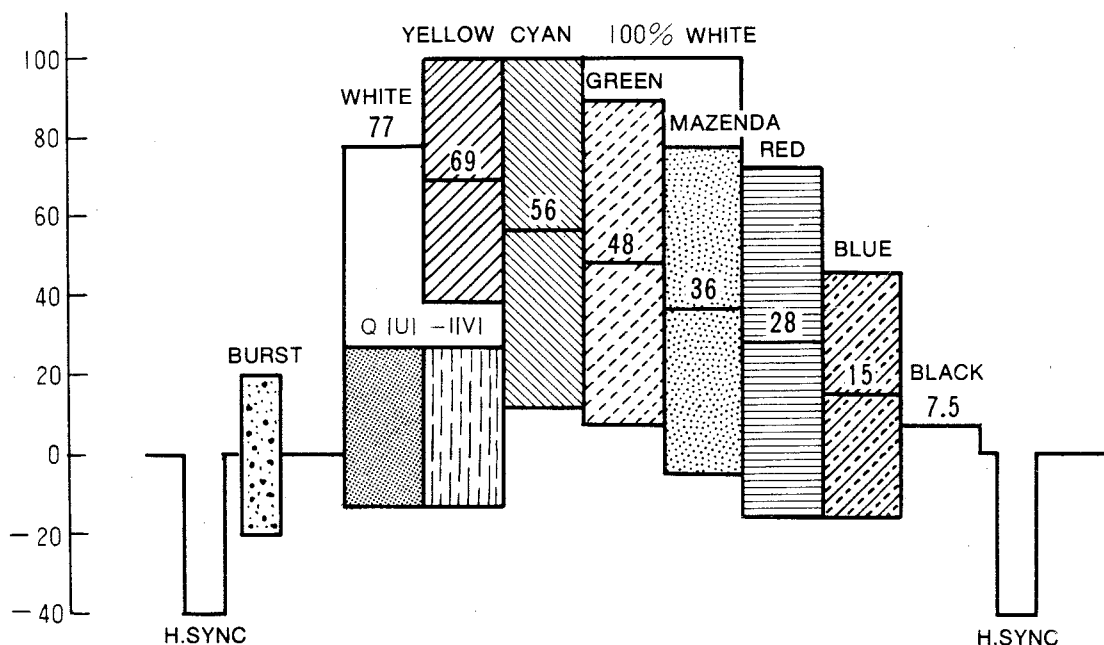

Fig. 8 Color Patterns Observed by Oscilloscope
While observing the patterns on the oscilloscope, adjust the SET UP control (12) to the desired level and the LUMINANCE control (14) for 1V p-p of video signal wave height (from H. SYNC to 100% white). Then, adjust the CHROMA control (13) until the maximum level of the yellow and cyan signals becomes equal to the level of the 100% white signal as shown in Fig. 8. The patterns shown in Fig. 8 are the waveforms of color bar signal set to 7.5%.